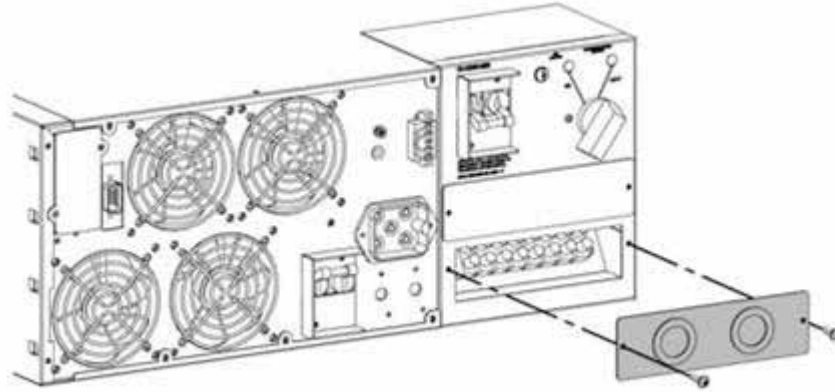

FIG 30 – HARDWIRE INSTALL 6KVA UPS
Open the SNMP slot by removing the two screws and the cover, then pull in the easy installation SNMP Card and connect previously prepared network cable (FIG 29 or FIG 30).
2. Remove the terminal cover (see FIG 30 or 31)